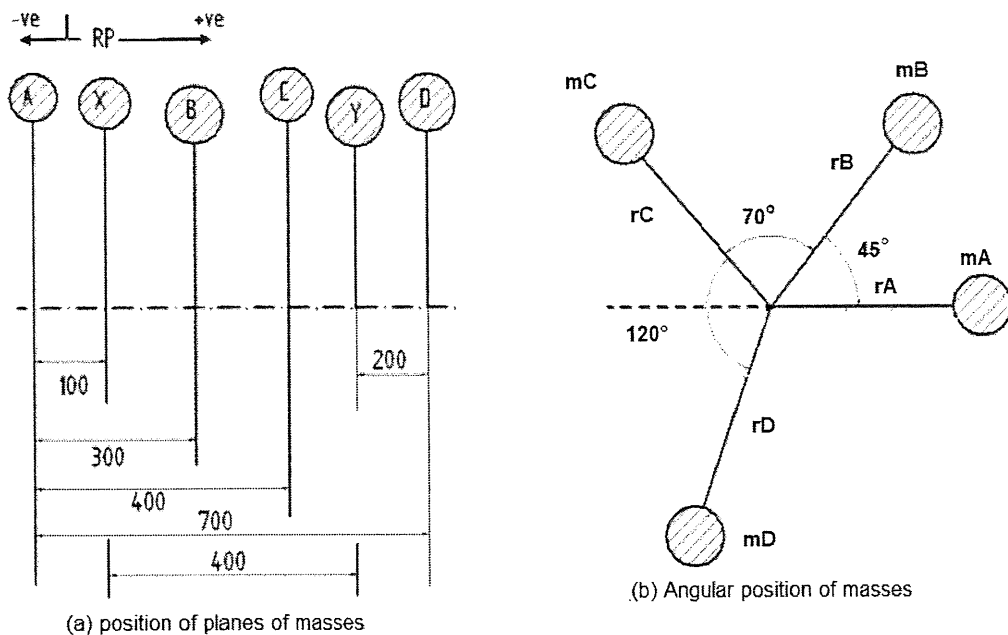

Figure 2
- a) Figure 2 shows a shaft carries four masses A, B, C and D of magnitude 200 kg, 300 kg, 400 kg and 200 kg respectively and revolving at radius 80 mm, 70 mm, 60 mm and 80 mm in planes measured from A at 300 mm, 400 mm and 700 mm. The angles between the cranks measured anticlockwise are A to B 45° , B to C 70° and C to D 120° . The balancing masses are to be placed in planes X and Y. The distance between the planes A and X is 100 mm, between X and Y is 400 mm and between Y and D is 200 mm. If the balancing masses revolve at a radius of 100 mm, solve their magnitudes and angular positions. (7 marks)